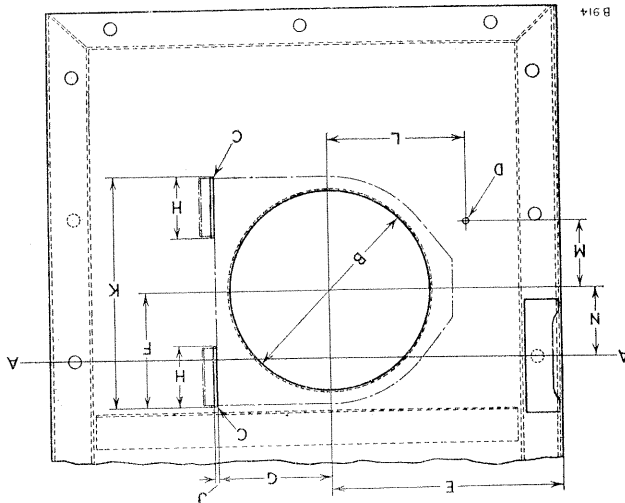

Fig. T-2—Cutting and drilling seat box centre inspection panel, early type
6. Mark out and cut one hole 7 in. (177 mm) diameter and two slots $\frac{3}{8}$ in. (3 mm) wide and $2\frac{1}{16}$ in. (52 mm) long, and drill one hole and $2\frac{1}{16}$ in. (5 mm) diameter in the panel as illustrated in Fig. T-2.